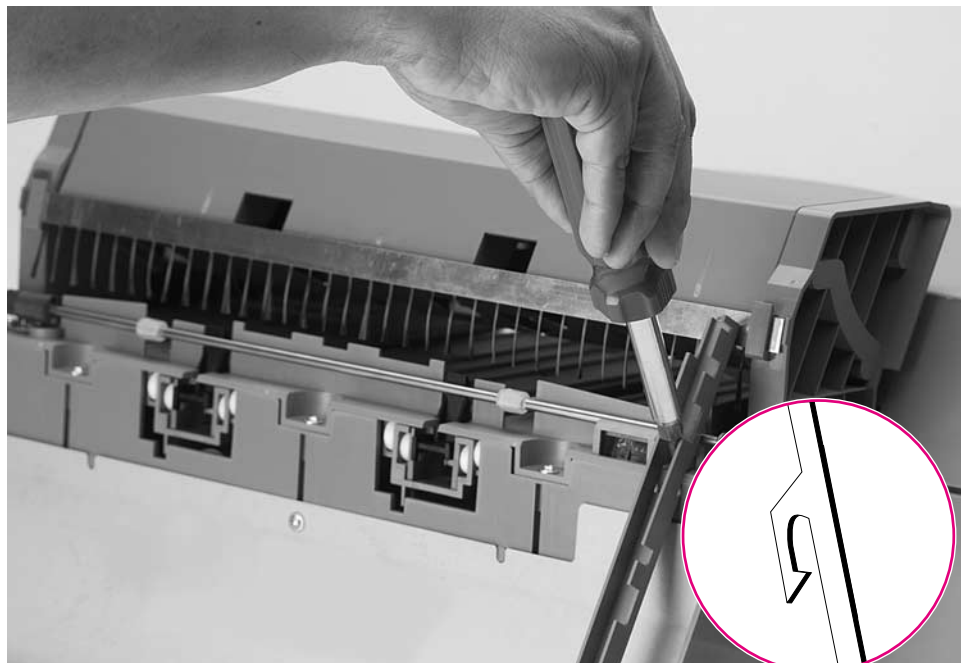

Figure 6-182 Back Plate (1 of 2)
- 2 Remove the Scan Bar by carefully pressing the tab on the scan bar backwards and downwards through the hole of the Stapler Bed (see figure 6-182) with a flat-tip screwdriver, then lift the bar.
- 2 Remove the Back Plate (see figure 6-182).
- 2 Open the Top Cover Assembly, and remove the Back Plate (see figure 6-182 on page 479).
- 2 Remove the Back Plate (see figure 6-182 on page 479).